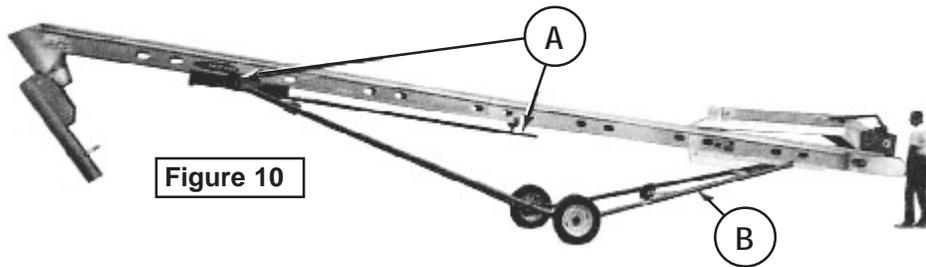
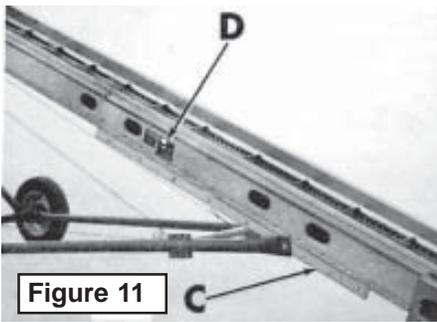

Figure 10
Figure 11
Fig. 10, 11, & 12 - When adding or removing options, such as the tilt hopper, swivel spout, shovel hopper, etc., it will be necessary to rebalance the elevator for ease of maneuverability.
**NOTE:** The transport lock and tube restraint indicated at “A” (Fig. 10) will have to be relocated when options are added or removed or if the length of the elevator is altered. See pages 14 & 15, Figs. 32, 33, 34,35 and 35A.
1. If a tilt hopper is being attached, reposition sub frame “B” (Fig. 10) in one of the (7) holes found in the support angle “C” (Fig. 11). Since weight is being added to the boot, the sub frame must be repositioned to the lower end of the boot to counter balance.
2. If swivel head or spouts are being attached, sub frame “B” (Fig. 10) will have to be relocated higher on support angles “C” (Fig. 11).
- E. Plate “D” (Fig. 11) automatically registers the degree of elevation as the elevator is being raised.